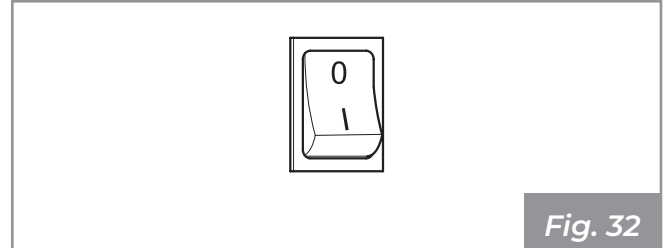

Fig. 32
- Remove the fixing screws of the left side and the back plate (**Fig. 32 - A**).